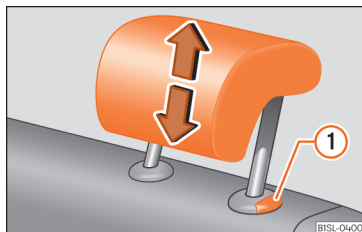

Fig. 67 Adjusting the rear head restraints
- Push the head restraint up or down in the direction of the arrow with the button pressed >>> **Fig. 67** ① >>> ⚠.